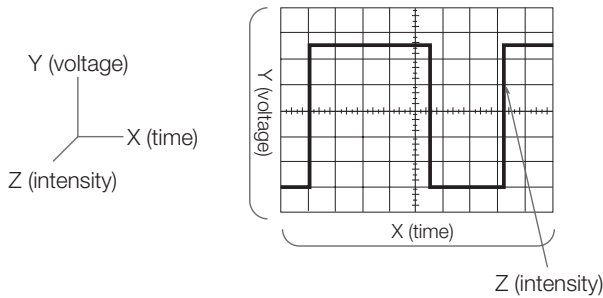
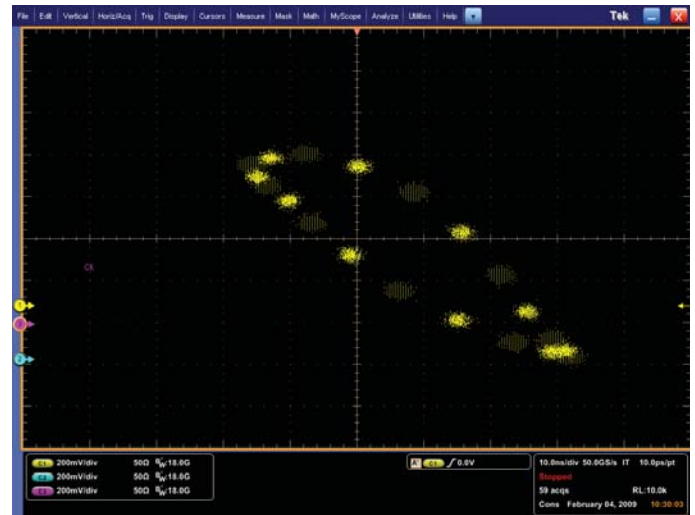

Figure 2a. X, Y, and Z components of a displayed waveform.
Figure 2b. Two offset clock patterns with Z axis intensity grading.
The oscilloscope is basically a graph-displaying device – it draws a graph of an electrical signal. In most applications, the graph shows how signals change over time: the vertical (Y) axis represents **voltage** and the horizontal (X) axis represents **time**. The **intensity** or brightness of the display is sometimes called the Z axis. (See Figure 2a) In DPO oscilloscopes, the Z axis can be represented by color grading of the display. (See Figure 2b)